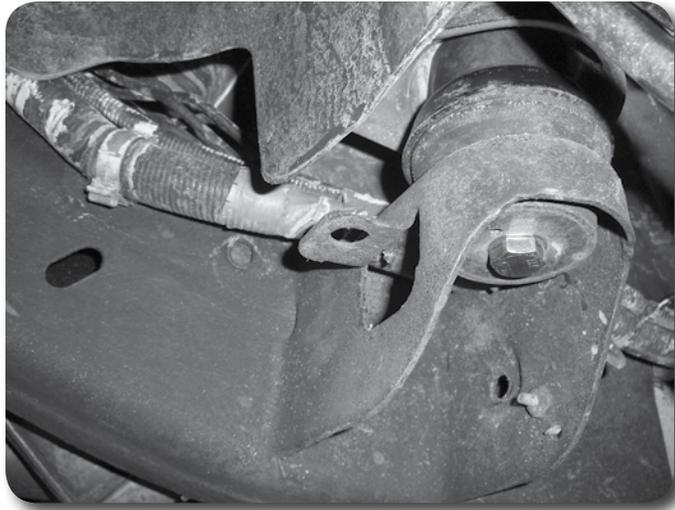
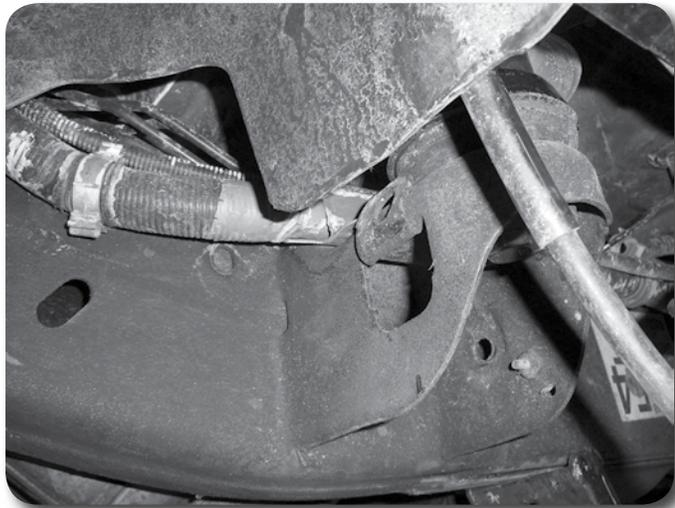
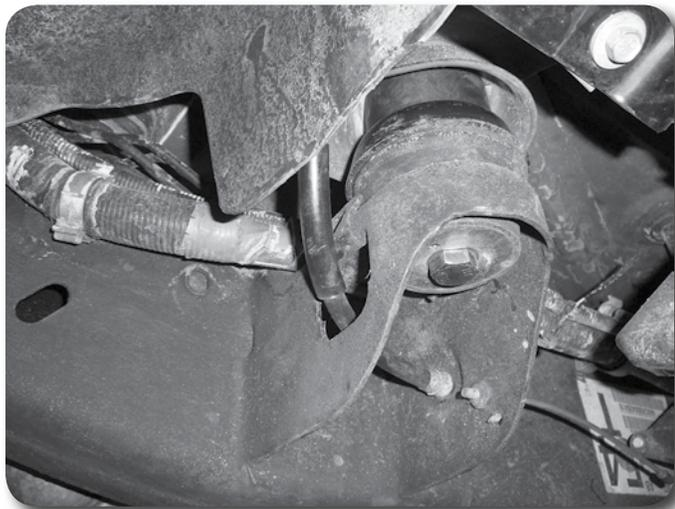

Figure 22A
Figure 22B
Figure 22C
52. Locate the tab on the driver's side body mount where the parking brake cable runs through it. **Figure 22A** Bend the tab up flat against the mount to gain slack for the cable. **Figure 22B** Run the cable back through the mount into its original location. **Figure 22C**